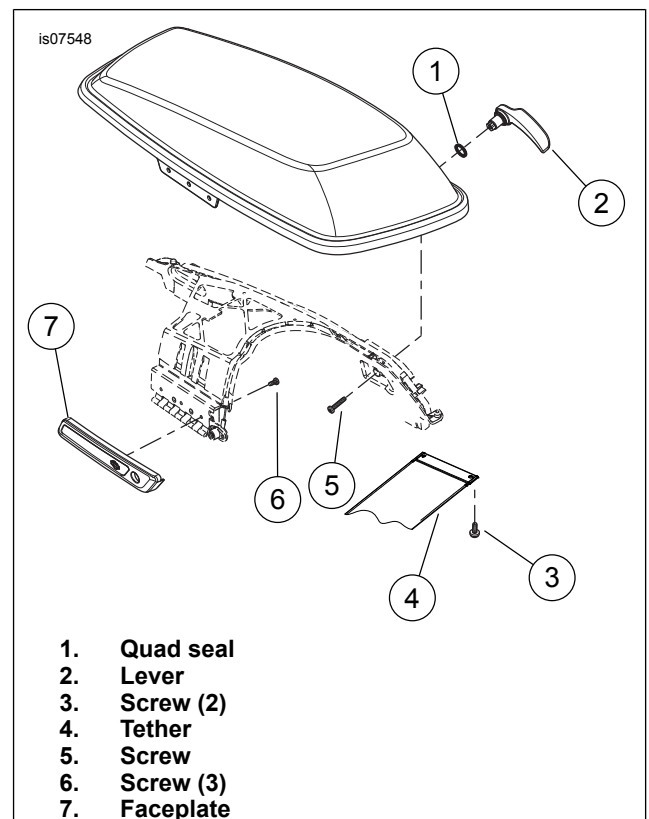

Figure 1. Hinge Cover and Lever Kit
1. See Figure 1. Remove tether screws (3) to access faceplate mounting screws (6). Save screws for installation.
2. Hold faceplate and remove screws (6) and faceplate. Discard screws and faceplate.
3. Remove the screw (5), quad seal (1) and lever (2). Discard screw, quad seal and lever.